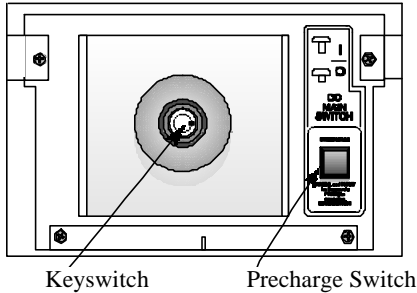

Figure 5
- a. After completing the battery pack installation, hold down the Precharge switch on the front of the battery cabinet for five seconds (see Figure 5).